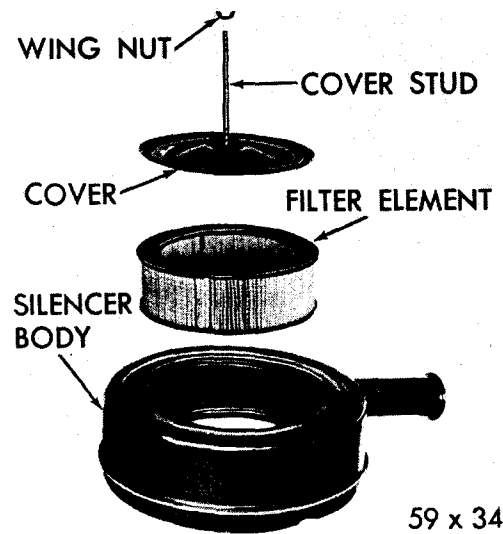

Figure 38 — Carburetor Air Cleaner (Paper Type)
Remove cleaner assembly, remove paper element, blow out dirt gently with an air hose. Direct air from inside out, and keep nozzle two (2) inches away from element to avoid damaging. Do not tap or immerse element in liquid. Wash the cleaner cover and body with cleaning solvent, such as kerosene and wipe dry (Figure 38). Replace paper element, center and secure firmly. Replace cleaner assembly on engine. Replace paper element every 500 hours.